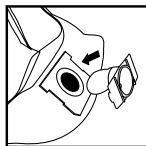

FIGURE 27
40. Position the inlet deflector with the opening facing the left or the right side of the filter bag. Slide the filter bag collar over the inlet deflector, matching the notches of the bag collar to the tabs on the inlet deflector. Bag will only fit properly one way. **FIGURE 27.**